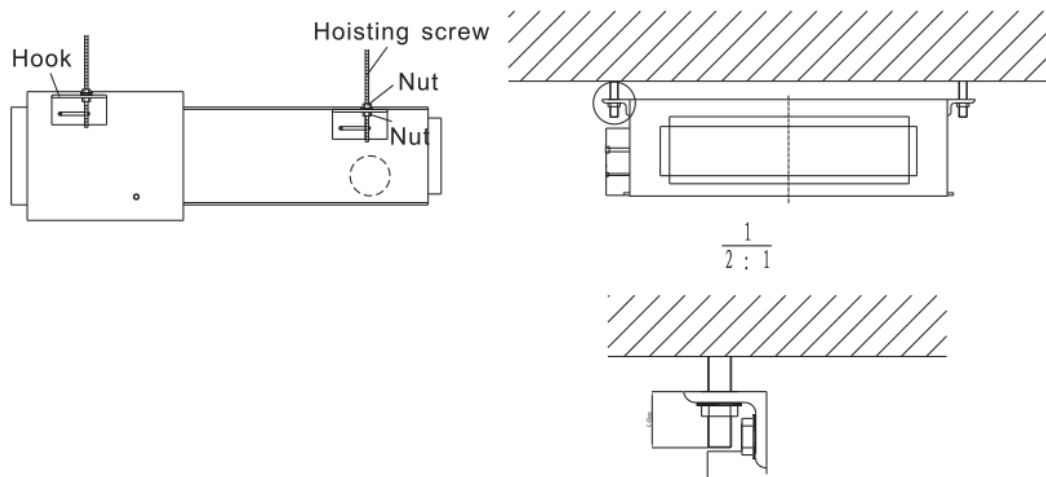

Fig 5
- Install the indoor unit on the ceiling(refer to Fig 5)